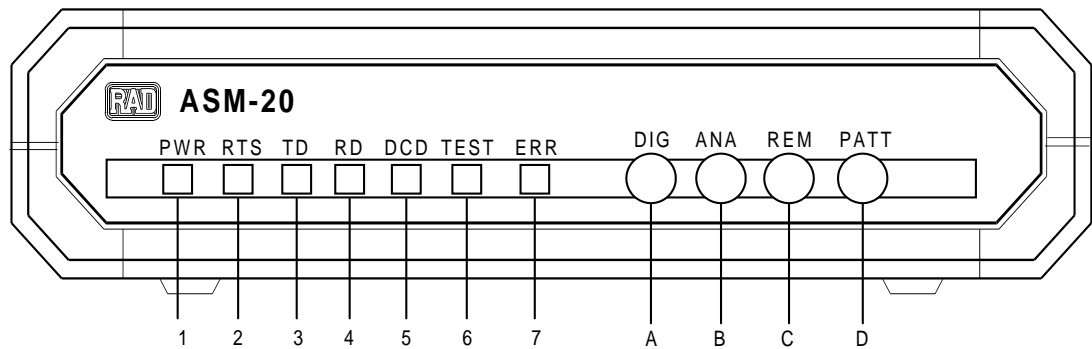
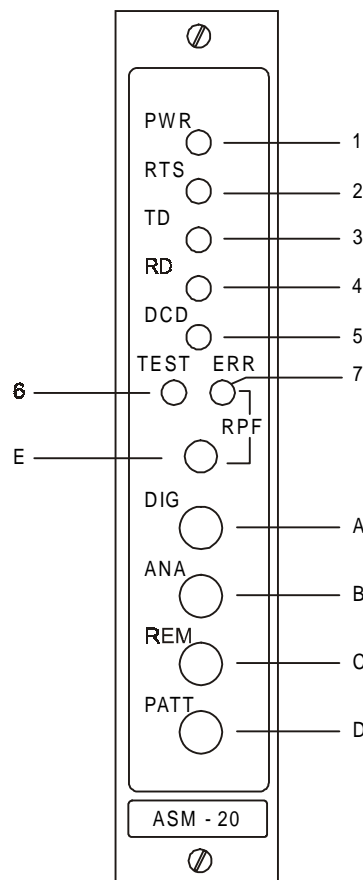
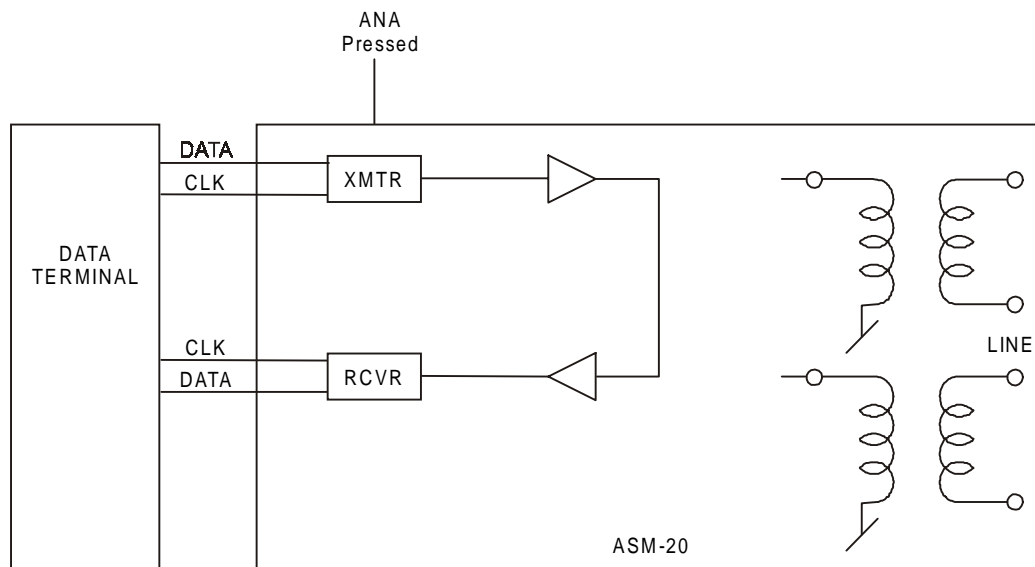

Figure 3-1 ASM-20/SA Front Panel
Figure 3-2 ASM-20R Front Panel
Figure 4-3 Local ASM-20 in Analog Loopback
All controls (push button switches) and LED indicators are located on the ASM-20 front panel. Their functions are described in *Table 3-1* and correspond to the identification numbers in *Figure 3-1* and *Figure 3-2*.
1. Press the ANA (Analog Loopback) push button on the front panel (see *Figure 3-1*). This test can also be activated via the pin on the DTE interface. See *Table 2-2* for more information. The TEST LED should turn on. ASM-20 transmit output is now connected to its own receiver (see *Figure 4-3*).